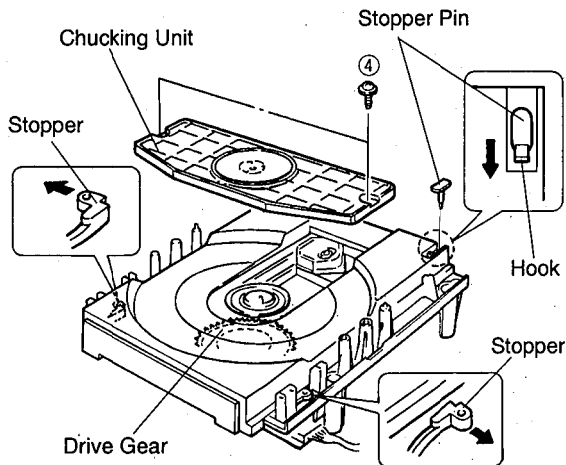

Fig. 3
- a. Remove 2 screws (④) and then remove the Chucking Unit in Fig. 3.
- b. Remove 1 hook and then remove the Stopper Pin in Fig. 3.
- c. Rotate the Drive Gear and then open the Tray Unit in Fig. 3.
- d. Detach the Stoppers on both sides and then pull out the Tray in Fig. 3.